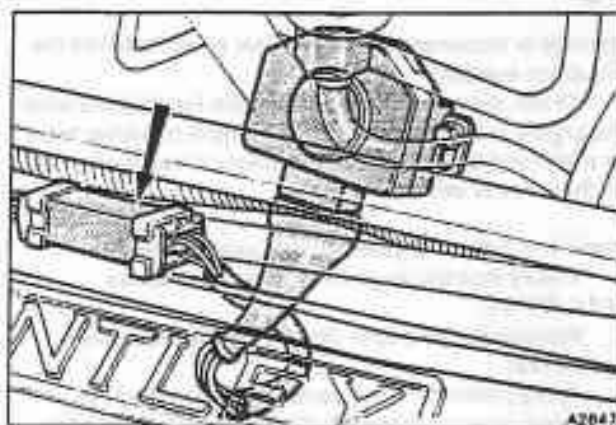

Fig. B4-37 Throttle position switch electrical connection
1. With the engine switched off, disconnect the three way electrical plug to the throttle position switch (see fig. B4-37).
4. Bridge the black/pink and the blue/purple connection on the ECU side of the throttle position switch connector (see fig. B4-37). The engine will now be governed by the 'idle map' engine management parameters.
9. Remove the bridge cable from the black/pink and the blue/purple connections on the ECU side of the throttle position switch connector (see fig. B4-37).